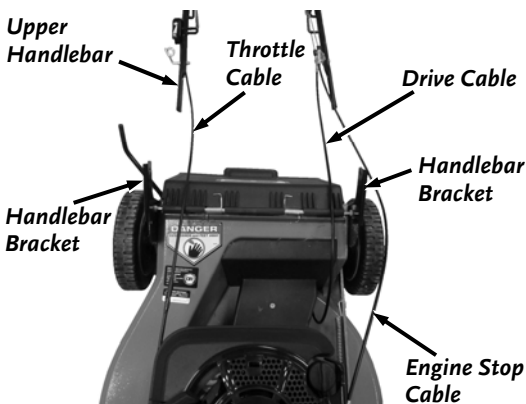

Figure 4
2. Carefully position the Upper Handlebar and Cables at the rear of the Mower (*Figure 4*). Position the cables so the Engine Stop Cable is on the outside of the Handlebar Brackets and the Throttle and Drive Cables are on the inside of the Handlebar Brackets.